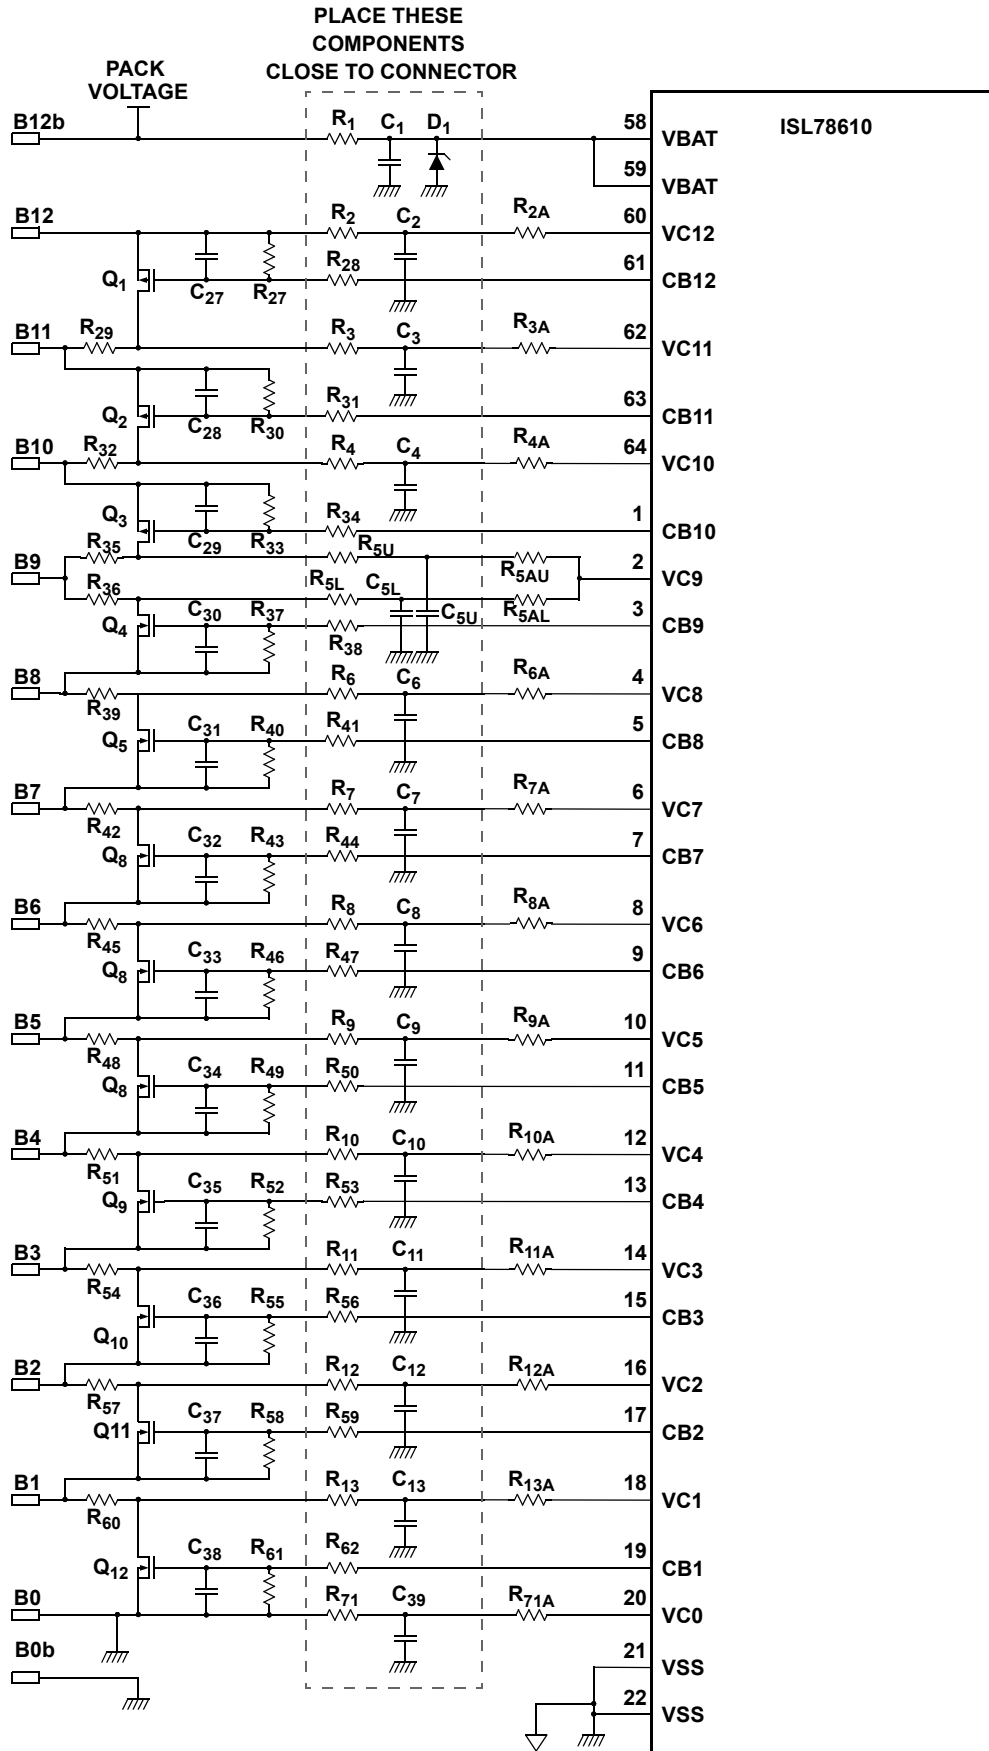
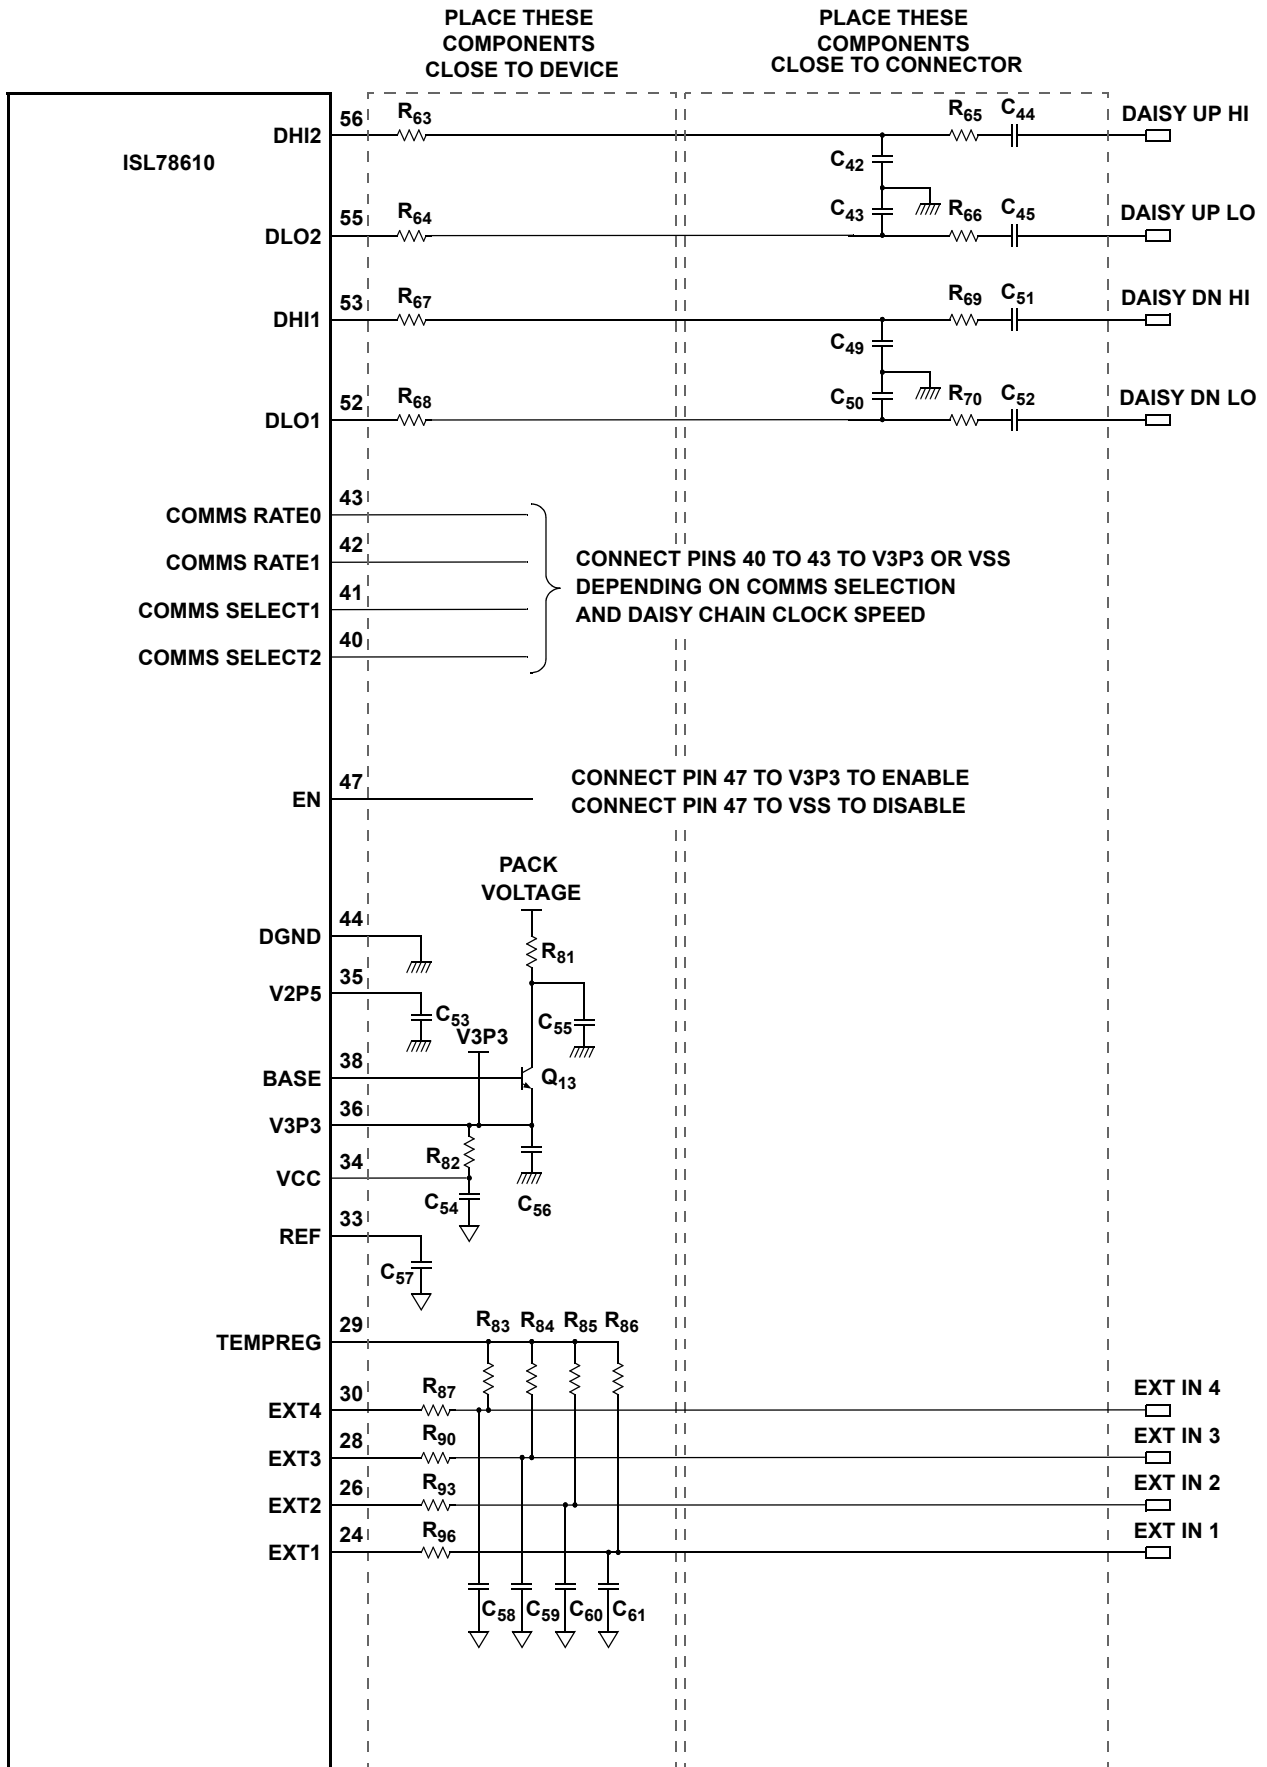
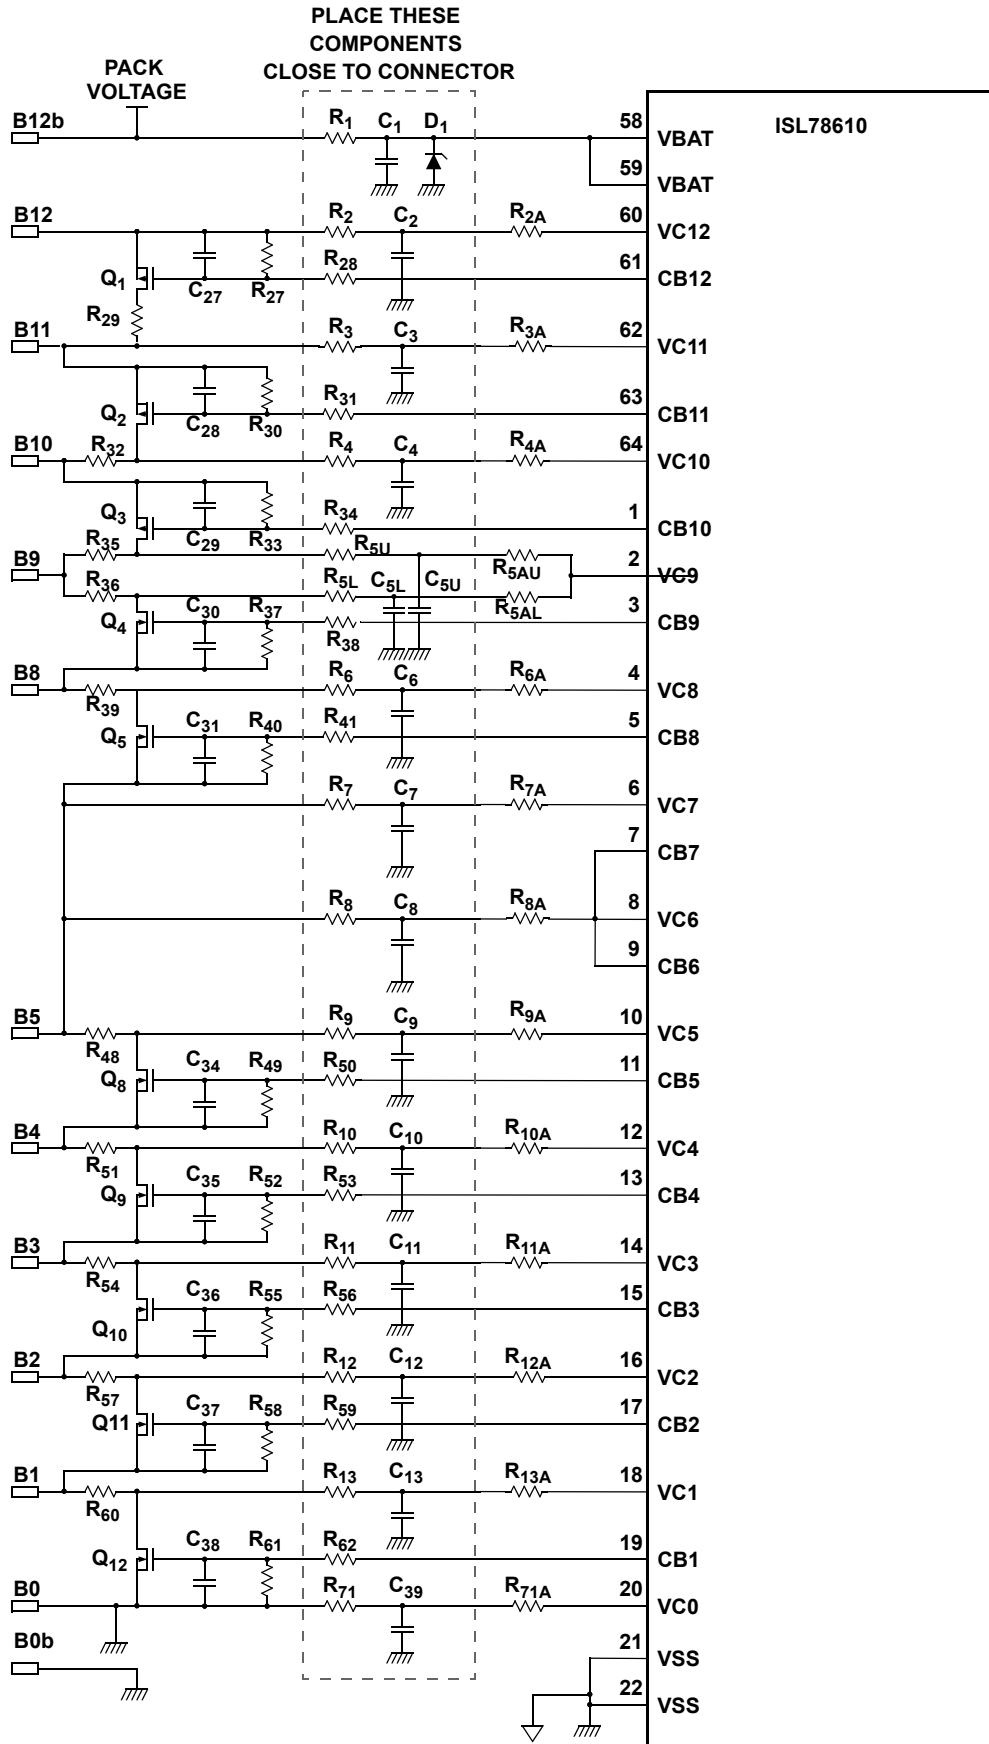
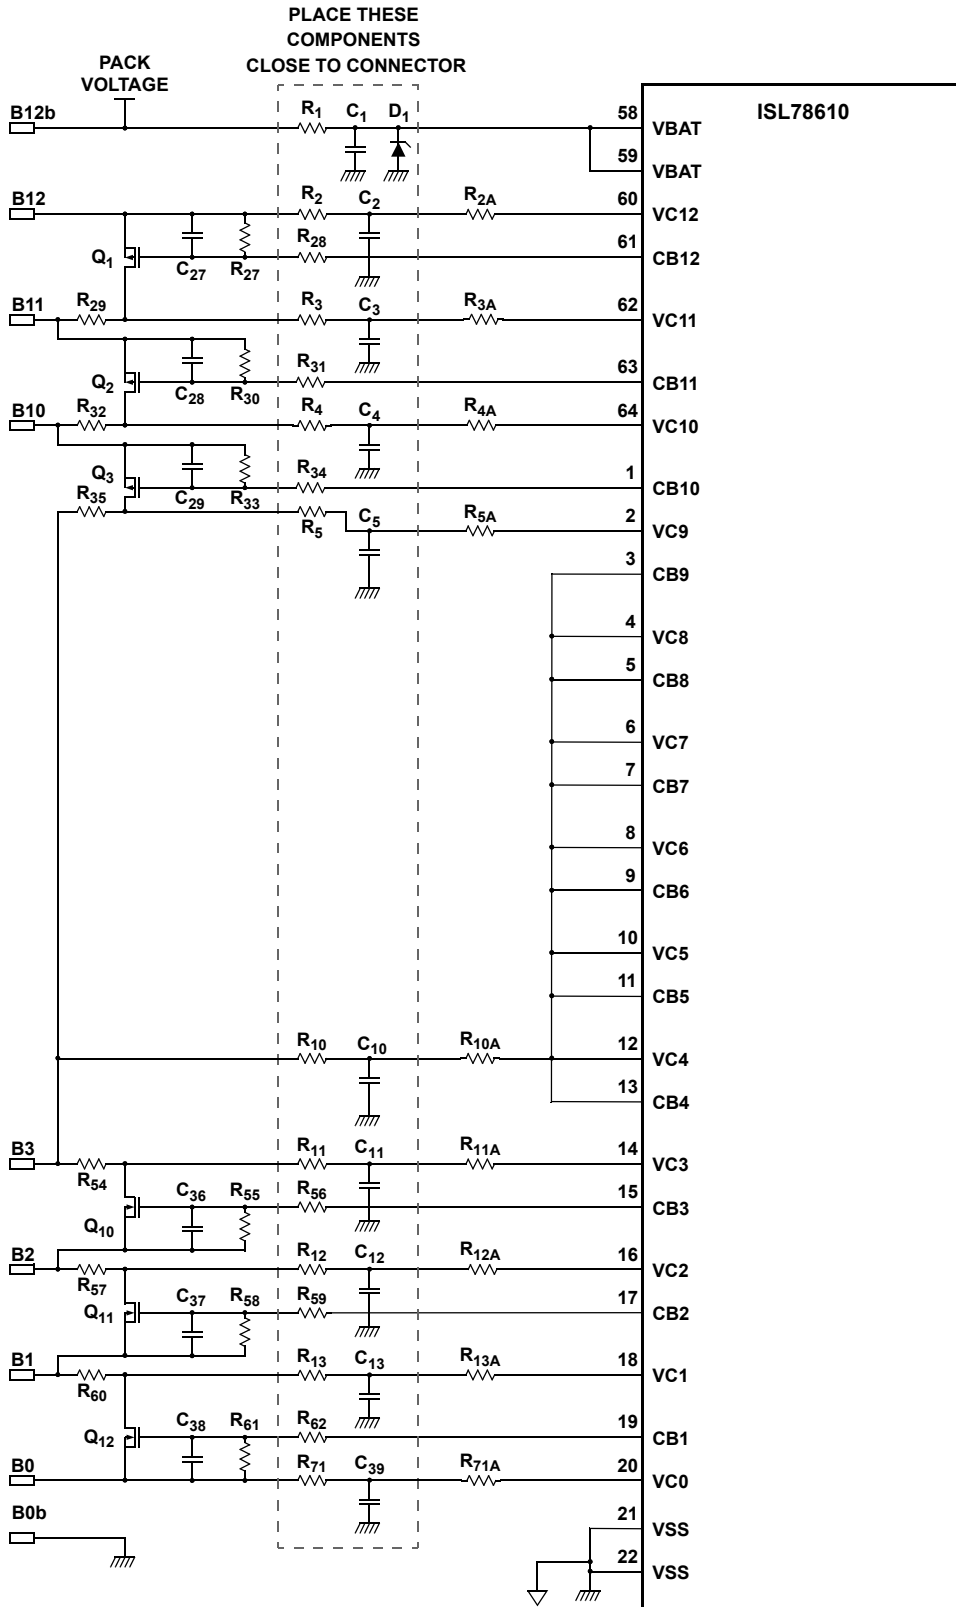

Figure 51. Typical Battery Connection Circuit
Figure 52. Typical Non-Battery Connection Circuits For Middle and Top Daisy Chain Devices
Figure 55. Typical 10 Cell Battery Connection Circuit
Figure 57. Typical 6 Cell Battery Connection Circuit
Typical application circuits are shown in Figures 51 through 57. Table 14 on page 46 contains recommended component values. All external (off-board) inputs to the ISL78610 are protected against battery voltage transients by RC filters. They also provide a current limit function during hot plug events. The ISL78610 is calibrated for use with 1kΩ series protection resistors at the cell inputs. VBAT uses a lower value resistor to accommodate the VBAT supply current of the ISL78610. A value of 27Ω is used for this component. As much as possible, the time constant produced by the filtering applied to VBAT should be matched to that applied to the Cell 12 monitoring input. Component values given in Table 14 produce the required matching characteristics.
Figure 51 on page 39 shows the standard arrangement for connecting the ISL78610 to a stack of 12 cells. The cell input filter is designed to maximize EMI suppression. These components should be placed close to the connector with a well controlled ground to minimize noise for the measurement inputs. The balance circuits shown in Figure 51 provide normal cell monitoring when the balance circuit is turned off, and a near zero cell voltage reading when the balance circuit is turned on. This is part of the diagnostic function of the ISL78610.
Figure 52 on page 40 shows connections for the daisy chain system, setup pins, power supply, and external voltage inputs for daisy chain devices other than the master (stack bottom) device.
The input circuit component count can be reduced in cases where fewer than 10 cells are being monitored. It is important that cell inputs that are being used are not connected to other (unused) cell inputs as this would affect measurement accuracy. Figures 55, 56, and 57 show examples of systems with 10 cells, 8 cells, and 6 cells, respectively.
The component notations and values used in Figures 55, 56, and 57 are the same as those used in Figures 51. But in Figure 57, the resistor associated with the input filter on VC9 is noted as R5, rather than R5U. This value change is needed to maintain the correct input network impedance in the absence of the Cell 9 balance circuits.
**Table 14. Recommended Component Values for Circuits in (Figure 52 through Figure 57)**
For Figure 52 on page 40 (battery connection circuits), the basic input filter structure is composed of resistors R2 to R13, R71, and capacitors C2 to C13 and C39. These components provide protection against transients and EMI for the cell inputs. They carry the loop currents produced by EMI and should be placed as close to the connector as possible. The ground terminals of the capacitors must be connected directly to a solid ground plane. Do not use vias to connect these capacitors to the input signal path or to ground. Any vias should be placed in line to the signal inputs so that the inductance of these forms a low pass filter with the grounded capacitors.
A dual point failure in the balancing resistors ( $R_{29}$ ,  $R_{32}$ ,  $R_{35}$ , etc.) of Figure 52 on page 40 and associated balancing MOSFET ( $Q_1$  to  $Q_{12}$ ) could also give rise to a shorted cell condition. It is recommended that the balancing resistor be replaced by two resistors in series.